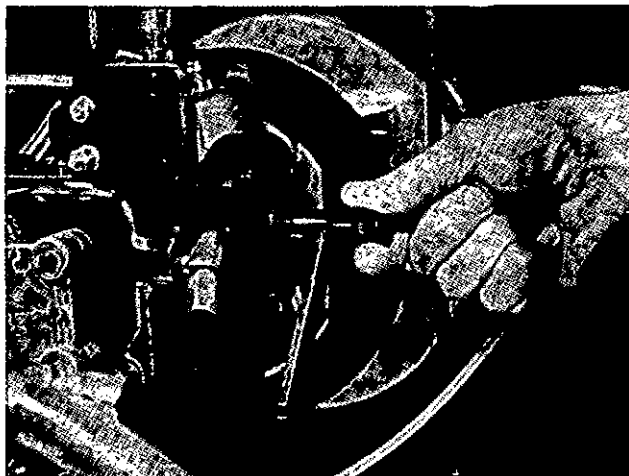

Fig. 10-24, (F5399). Set the AFC plunger position with the service tool 3375137.
7. Lower the AFC bellows air pressure to 0 in. Hg. Let the fuel pressure and the flow meter go to zero (0). Increase the air pressure to the inches Hg in the calibration data. This is 8 in. Hg for Code 3650.
8. Use the AFC control plunger tool, 3375137, to loosen the plunger locknut. Turn the plunger in or out to get the fuel pressure specification,  $\pm 2$  psi [14 kPa]. This is 62 psi for code 3650. Fig. 10-24.